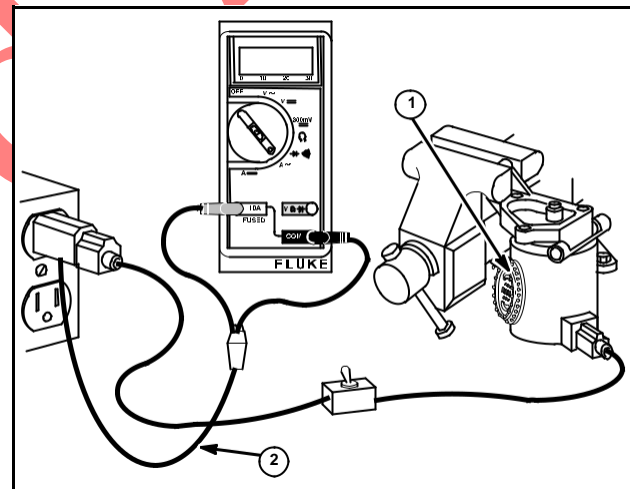

Fig. 18
1. Clamp the starter motor in a vise as shown in Fig. 18. Sirometer (1), AC Shunt Tool #19358 (2).